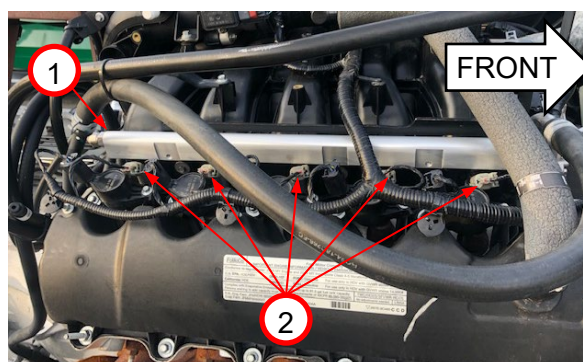

Figure 1:
6. Disconnect fuel injector electrical connector(s) from fuel injector(s) to be replaced. *Figure 1*